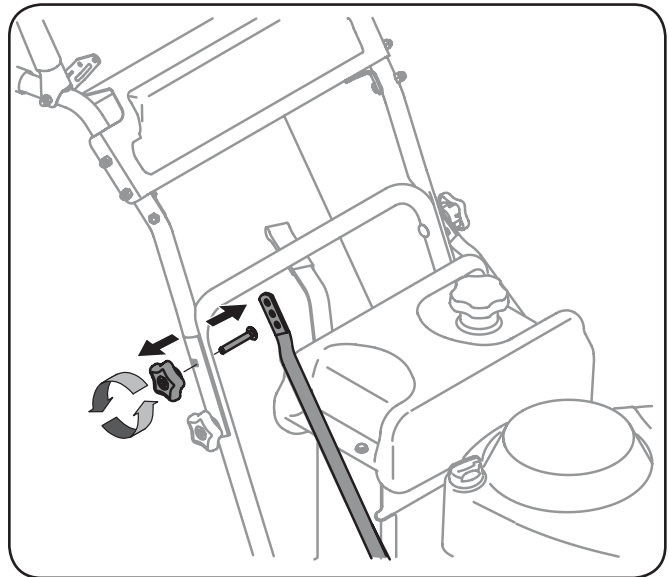

Figure 6-7
1. Remove the upper star knob and carriage screw on the right side of the handle and the left side of the handle. See Fig. 6-7.